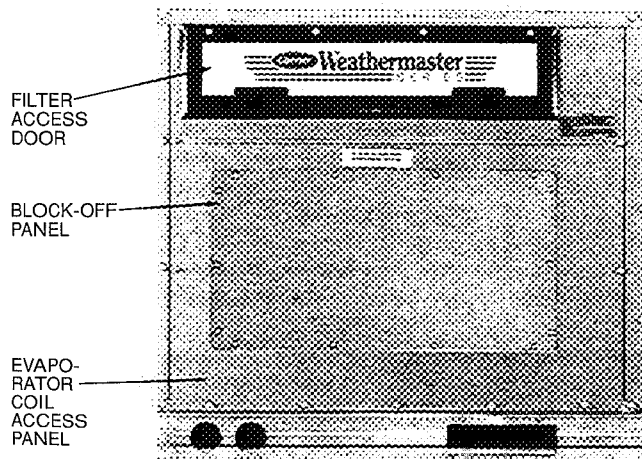

Fig. 11 – Access Panel Location
1. Remove evaporator coil access panel. Save panel and screws. See Fig. 11.
3. Remove block-off panel from evaporator coil access panel and discard. Save screws. See Fig. 11.
2. Remove evaporator coil access panel. Save panel and screws. See Fig. 11.
4. Remove block-off panel from evaporator coil access panel and discard. Save screws. See Fig. 11.